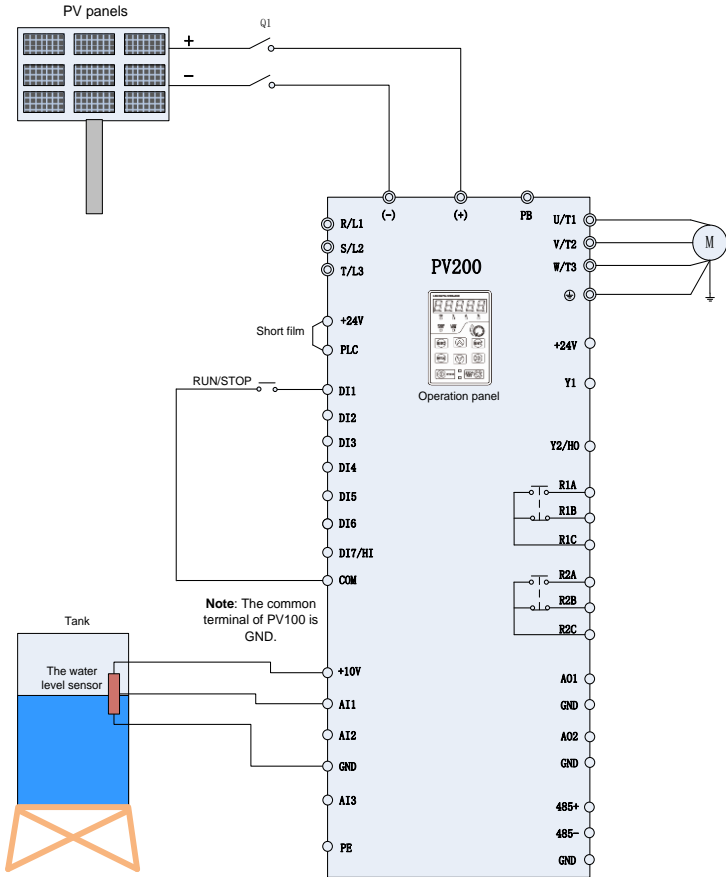
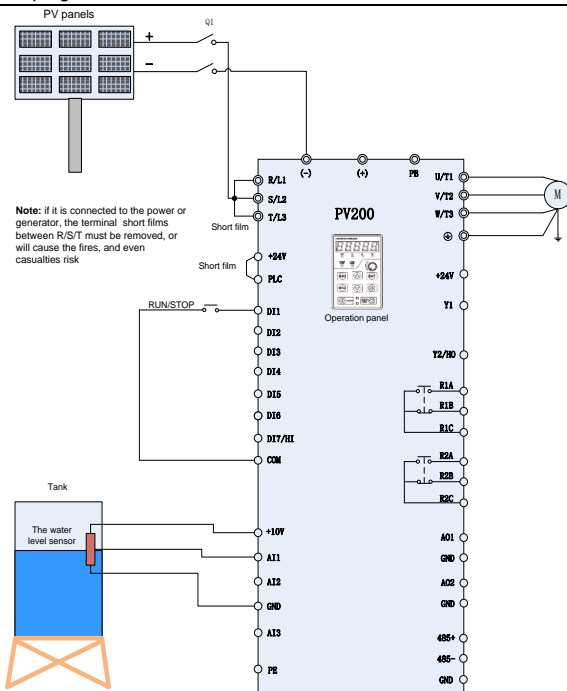

Figure 2-1 PV Cell Power Supply Wiring Diagram 1
Figure 2-2 PV Cell Power Supply Wiring Diagram 2
1. Wiring drawings of below inverters shown as Figure 2-1: PV100 series, PV200 series 3 phase 220V inverters with power lower than 15kw and 3 phase 380V inverters with power lower than 30kw.
Wire drawings of below inverters shown as Figure 2-2: PV200 series 3 phase 220V inverters with power higher than 18kw and 3phase 380V inverters with power higher than 37kw.
1. Please wirings as Figure 2-1 or Figure 2-2 according to different inverter powers, check and confirm the wirings to be correct, and then close Q1.